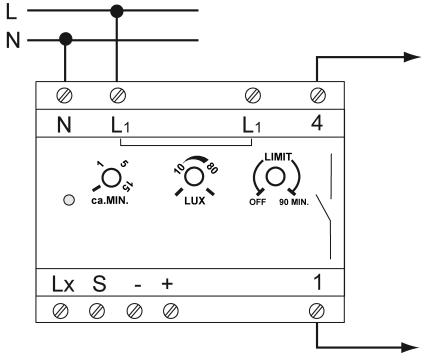

Figure 5: Connection diagram for switching contact to small voltage
- Connect the power pack according to connection diagram (Figure 5).